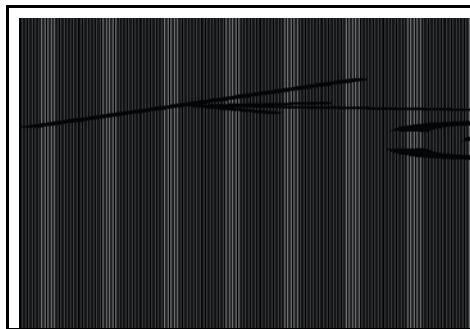

Figure 4. Compressor Unit Clearance
- Where suggested clearance is 3 feet on both sides, top and front, for access. However, local codes and applicable regulations take precedence. Clearance from back panel to wall and minimum side clearance should be at least one foot. See Figure 4 for details.